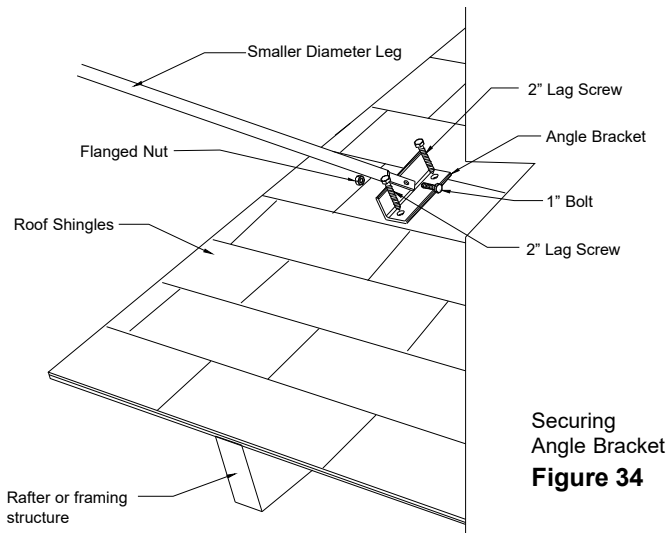

Figure 34
H. Attach the other end of each telescoping leg assembly to an Angle Bracket using one (1) 1/4-20 X 1" bolt and nut (see Figure 34).
I. Determine the location of the two Angle Brackets on the roof structure. Ensure the fasteners are into rafters or framing and not just roof sheathing. Secure the Angle Brackets to the roof structure using two (2) 1/4 X 2" lag screws per brackets (see Figure 34). Apply a thin layer of caulking under the angle bracket (before securing in place) as well as over the lag screw heads.